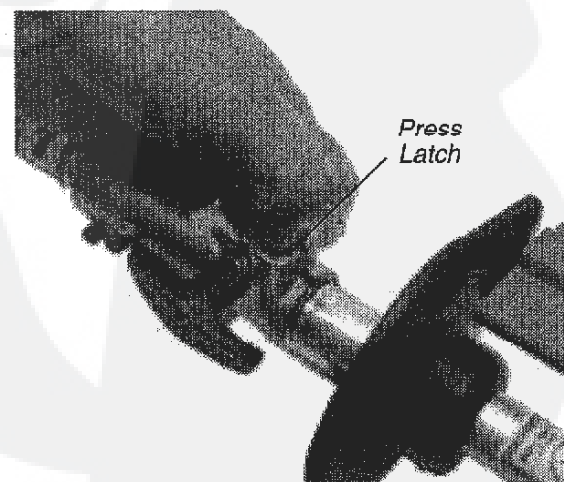

Figure 7
2. Press down on the latch with your finger or thumb. This releases the coupler lock. See Figure 7.